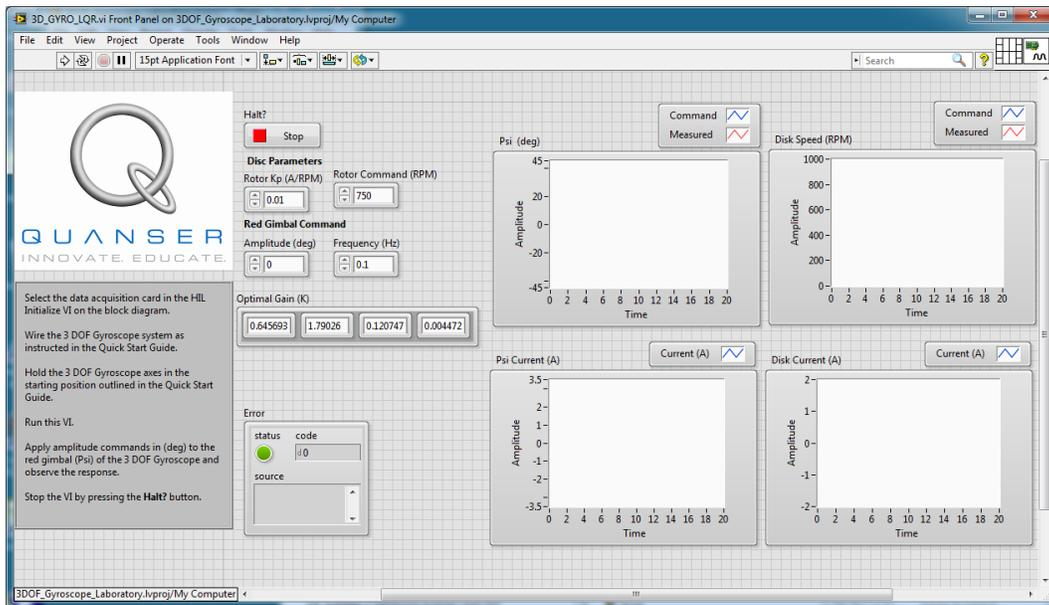

Figure 3.3: VI used to run controller on the 3D GYRO.
The *3D\_GYRO\_LQR* VI shown in Figure 3.3 is used to perform the red gimbal position control on the 3D GYRO. The VI contains drivers that interface with the DC motor and sensors of the 3D GYRO system.
2. Open the *3D\_GYRO\_LQR.vi*, shown in Figure 3.3.